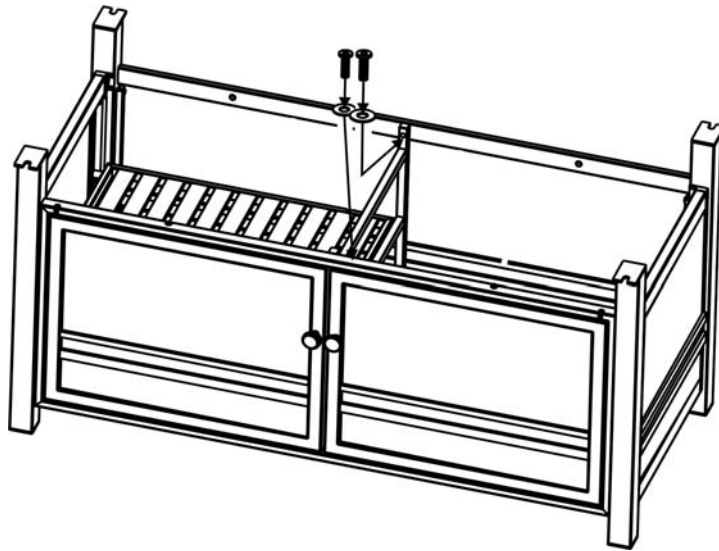

Figure 6
6. Attach the bottom panel to the back panel by using two 1/4"x30 mm bolts and washers as shown in Figure 6. Guide the bolts through holes in the bottom panel, into pre-drilled holes in the back panel. Hand tighten only.